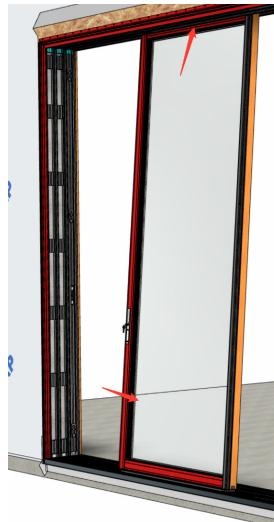

Fig P1
- Tilt the panel into the inner most channel in the Head (Fig. P1).